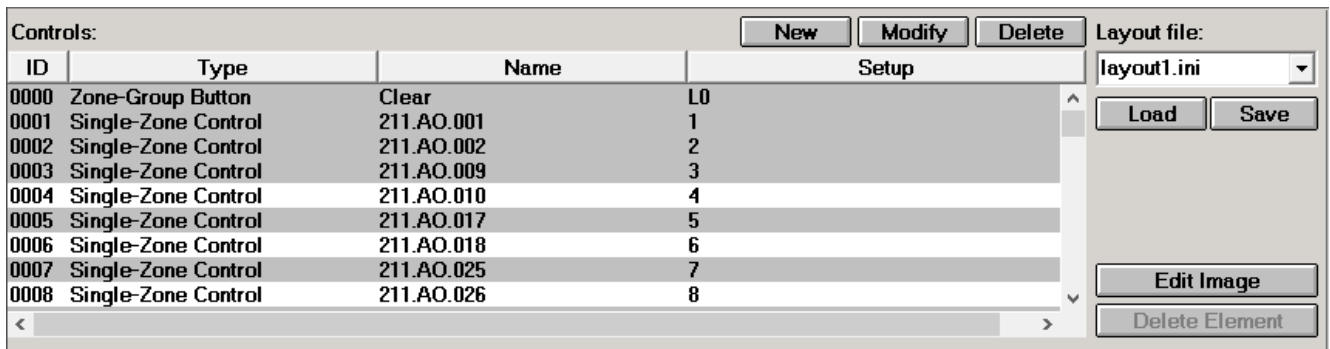

Fig. 18: Function window for editing the system views
- The configuration session is started by selecting the configuration dialog (see Fig. 18) for the affected view via the menu:
The configuration dialog (see Fig. 18) contains the list of already configured control elements. These are displayed differently based on the use and selection status in the edited view and the elements list: